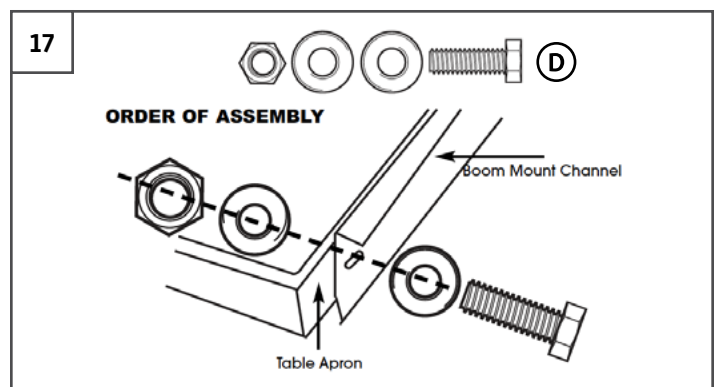

FIGURE 17: BOOM MOUNT CHANNEL INSTALLATION
4. Secure the boom mount channel to the extension table using the supplied **MOUNTING HARDWARE (D)**. Follow the order shown in Figure 17.